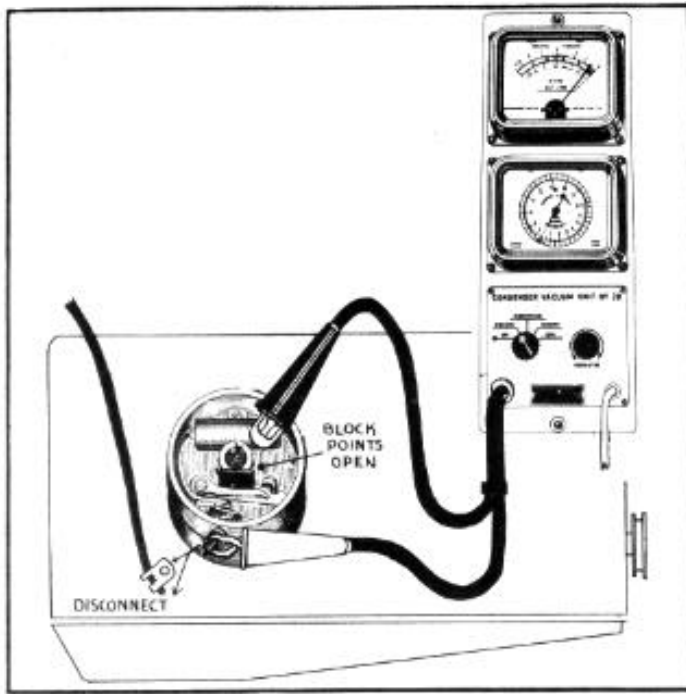

FIGURE 14
5. Connect the red lead to the distributor primary terminal and connect the black lead to the condenser shell, Figure 14. With the control knob turned to the "Microhm" position, the meter should read in the blue bar marked "MIC" at the right side for satisfactory condenser circuit resistance.